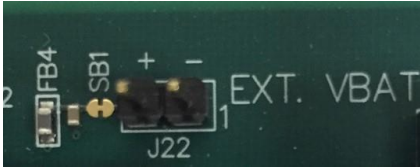

Figure 5: External VBAT power connector
**Note:** The development board connects the VBAT pin directly to 3V3\_MCU. An external battery voltage can be applied to the EWB module by cutting SB1 to remove the connection to 3V3\_MCU and applying a battery voltage to J22 (Figure 5).